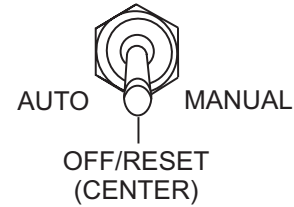

Figure 92. Auto Start/Stop Switch (Off/Reset Position)
7. Place the Auto Start/Stop Switch (Figure 92) in the “Off/Reset” position.